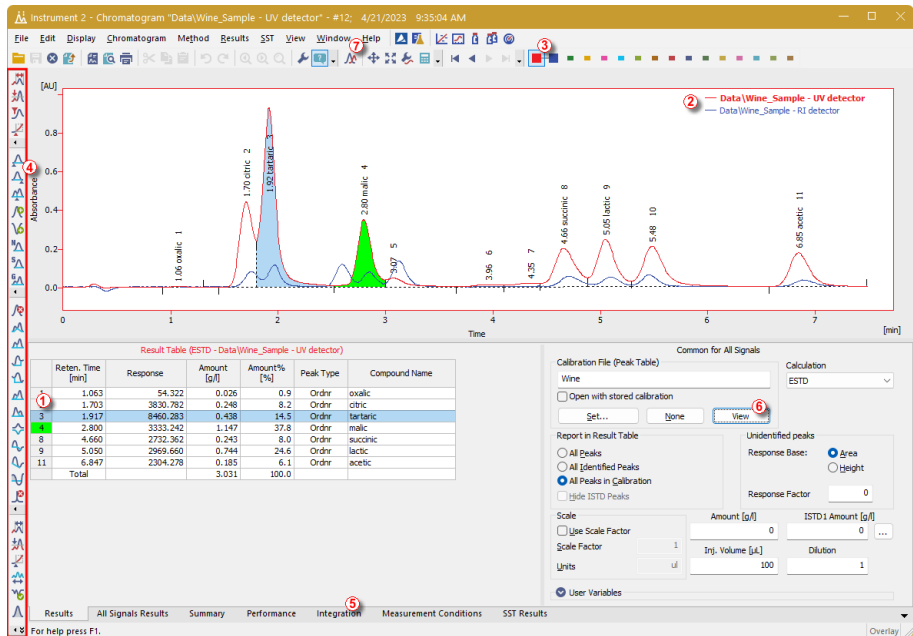

Fig. 14: The Chromatogram window
- Multiple chromatograms may be displayed at once. Switch to the **Overlay** mode by pressing the **Overlay** button found on the **Overlay** toolbar (⑦ in Fig. 14 on pg. 23.) and then use the **File - Open Chromatogram...** command or the **Open Chromatogram** icon. It is now possible to select several files to be opened in the **Open Chromatogram** dialog. You can click the **Overlay** button again to close all the chromatograms except the currently selected one.